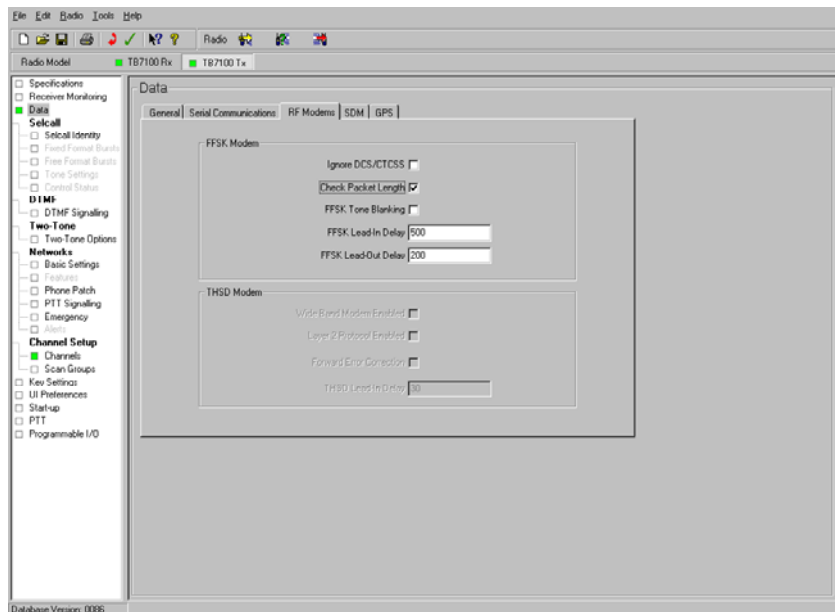

Figure 9
- Under Data>Serial Communications set the following parameters as in **figure 9**: